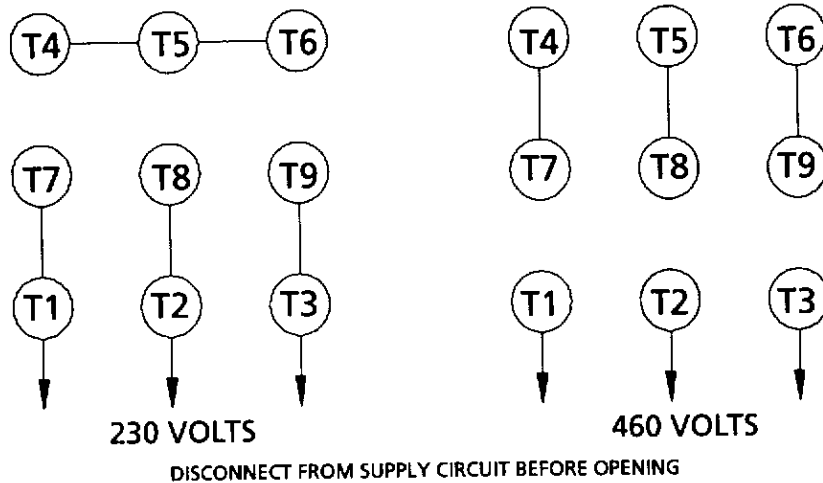

Figure 6 - Wiring Diagram
Refer to Figure 6, page 5.
1. Fume exhauster is prewired at the factory for 230 volt, 3-phase operation. See Figure 6 for wiring diagram.